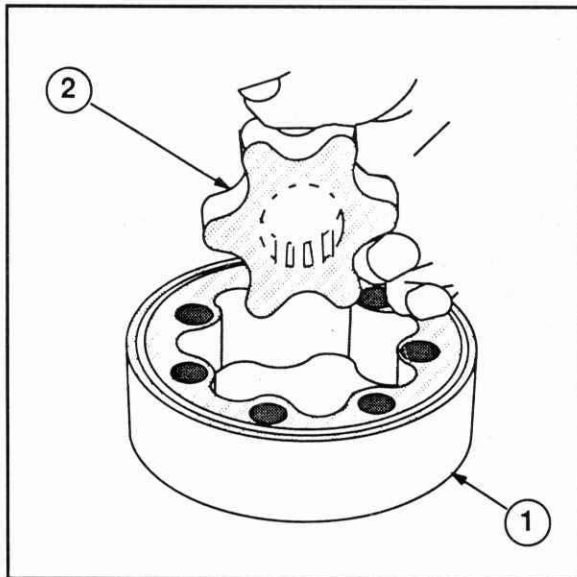

Figure 7-33
4. Remove metering unit rotor from the stator, Figure 7-33, and inspect both components for damage and wear.